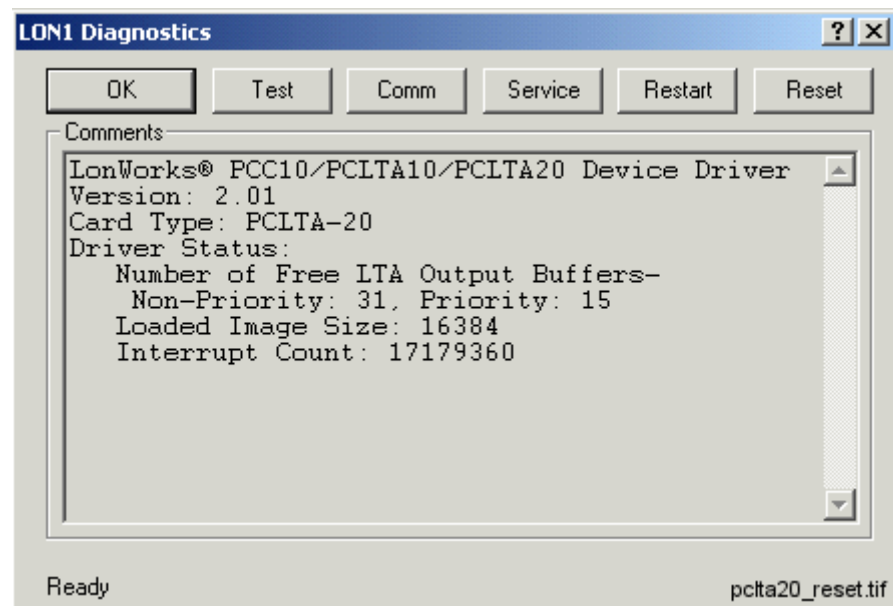

Fig. 5.5.4.2.-4 Some basic diagnostics information available indicating that the device driver has been started and can be configured
15. On the LonWorks Plug'n Play control panel (see Figure 5.5.4.2.-2 above), click the Diagnostics... button to open the Diagnostics dialog shown below.